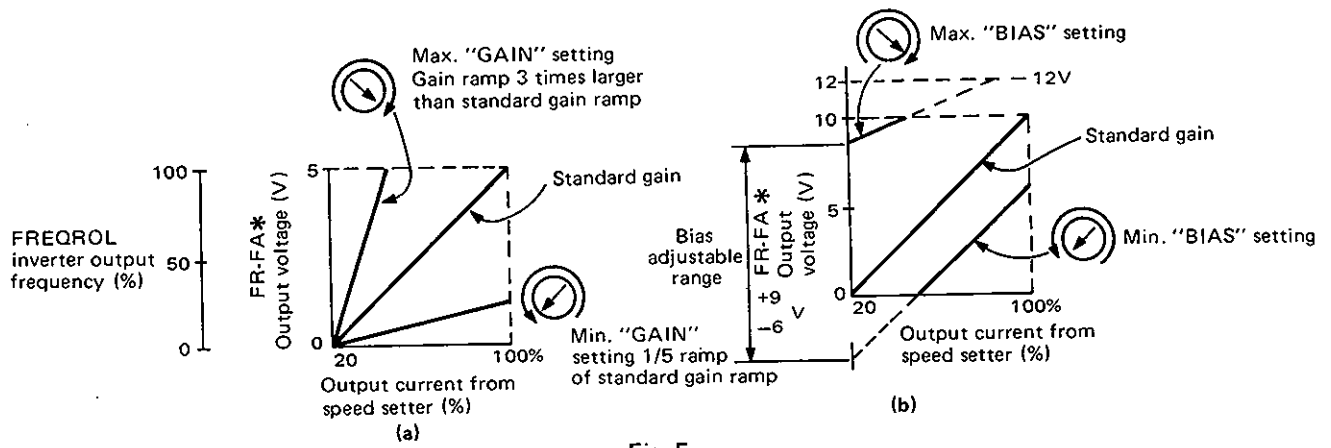

Fig. 5
By turning "GAIN", the gain can be changed as shown in Fig. 5(a).
(2) Bias setter "BIAS". "used to horizontally shift gain ramp"
When "BIAS" is turned from its standard setting with "GAIN" maintained at standard setting as described in (1), the ramp gain horizontally shifts as shown in Fig. 5(b). This bias adjustment is possible within a range from +9V to -6V. When it is necessary to finely adjust the standard gain, repeat the adjustment on the "GAIN" and "BIAS" two or three times.
(3) Input impedance setter "INPUT IMPE"